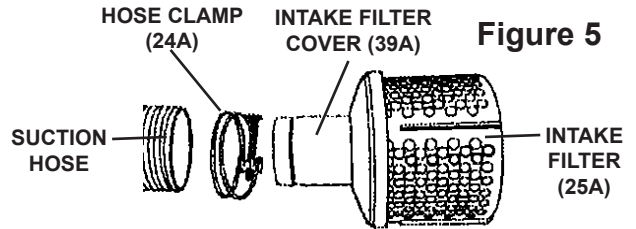

Figure 5
4. Slide second Hose Clamp over other end of Suction Hose. Attach Hose to Intake Filter Cover (39A). Use screwdriver to tighten Clamp until secure. See Figure 5.